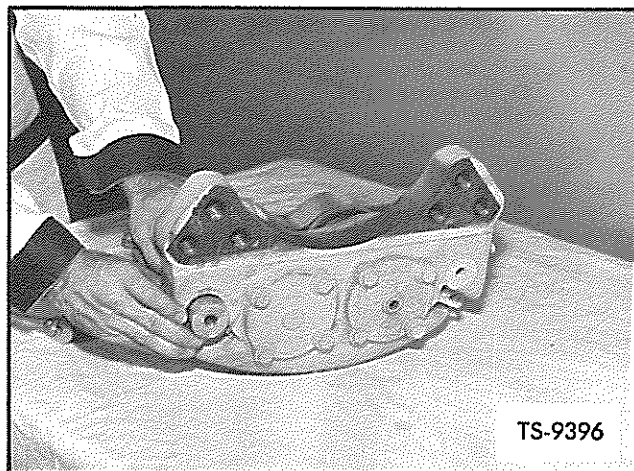

Fig. 30. Reinstall Retaining Pins
24. Reinstall carrier and lining retaining pins in torque plate as shown in Figure 30. If pins are deeply grooved, they should be replaced or rotated so that grooved end is opposite the end of carrier and lining.